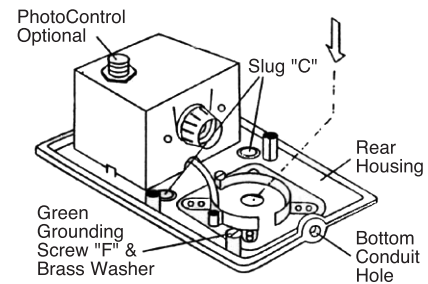

Figure 3
- Mounting with two bolts - Knock out two slugs (C Figure 3) in the rear housing. Mount with (2) bolts or lag screws.
- Optional bottom conduit entrance - Drill out or tap out recessed indentation in the bottom of rear housing. (See Figure 3).
- Using provided twist-on or other approved connectors, connect the fixture wires to the supply wires as follows: (See Figure 3 & 4).